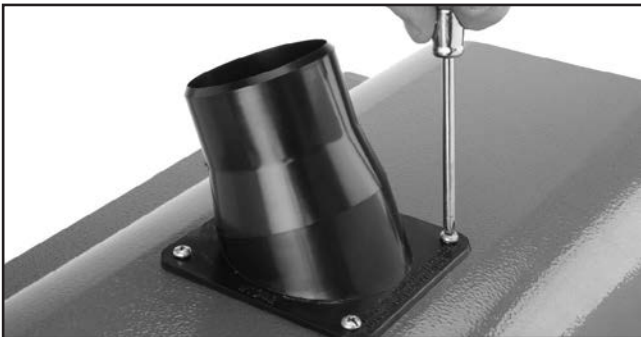

Figure 8. Dust port installation.
2. Place the 2½" dust port over the top cover mounting holes and secure with the screws removed in **Step 1** (see **Figure 8**).